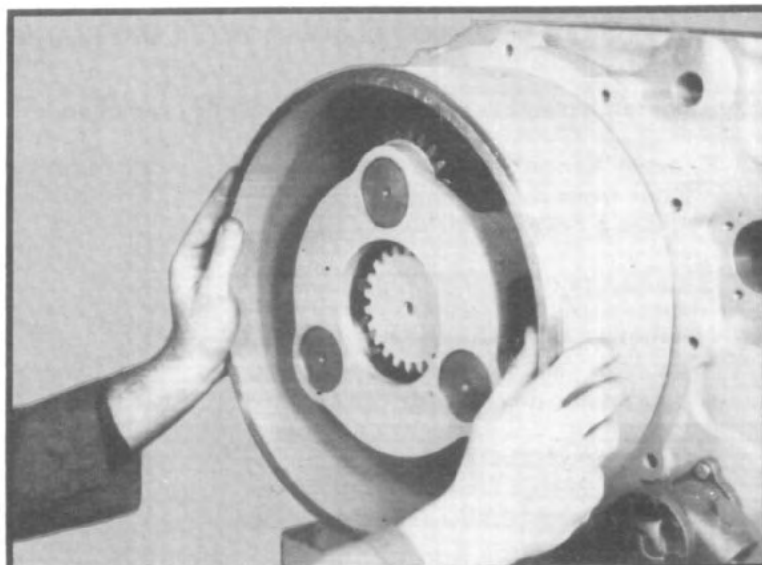

Fig. 63
- 3.9 Tap planetary housing to loosen and remove. (See fig. 63.)